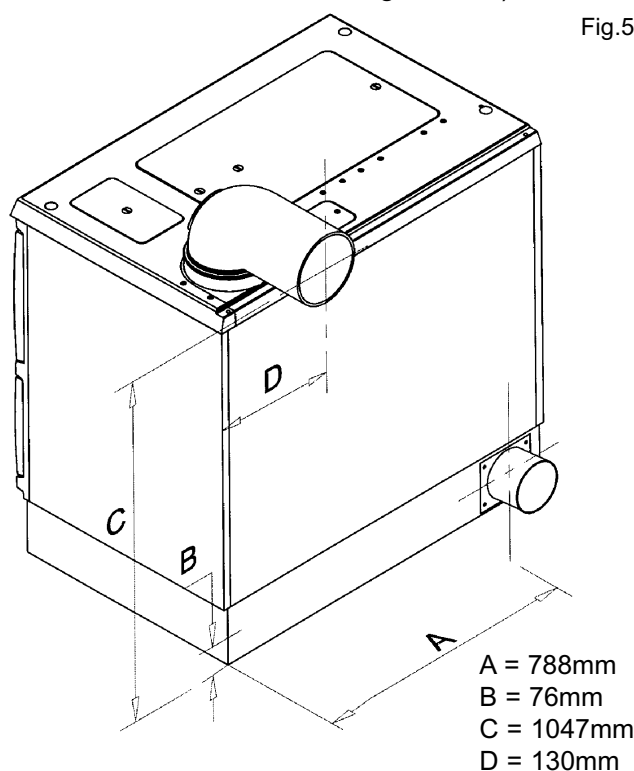

Fig.5
- (a) Fit the primary air spigot (item 4) to the rear of the base over the opening with the $\frac{1}{4}$ " BSW screws. (See Fig 5)
- (b) Cut the Air inlet duct (item 5) to the required length, allowing for the connection to the cooker, the cooker wall clearance and the air inlet terminal. (item 6).
- (c) Push on Air inlet duct (item 5.) over the primary air spigot (item 4) and secure using one of the jubilee clips. (item 7.)
- (a) Make two openings through the wall, one a 150mm (6") and one 250mm (10") diameter, where the cooker is to be located. The 150mm (6") opening is for the primary air inlet duct. The 250mm (10") is for the fan flue terminal assembly. See (fig. 5) for fixing centres.